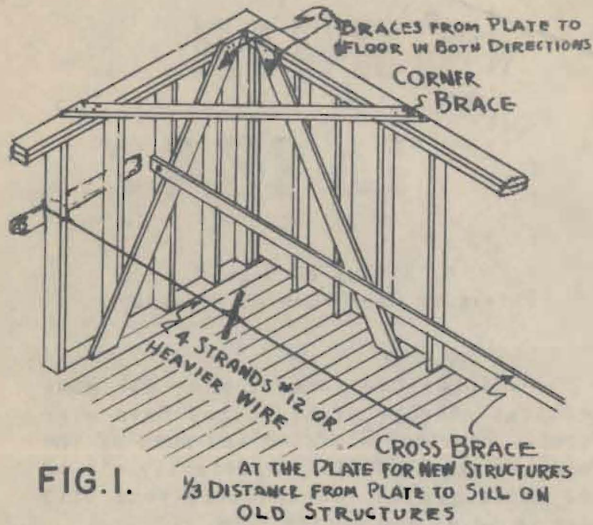

FIG. 1.
(2) **REPAIRING, REPLACING OR SUPPLEMENTING BROKEN, ROTTED, LOOSE OR INADEQUATE STUDS AND JOISTS.** Studs and joists can be adequately reinforced by installing duplicate members at regular intervals (see table 1 for maximum loadings) by cross-tying the walls with twisted strands of wire or by nailing crossties at frequent intervals (see fig. 1). End sections can be tied to the side walls by nailing crossties across the corners at the plate and possibly at the sill.
NAIL ALL STUDDING SECURELY TO THE FLOOR JOIST. A lap joint is recommended. If this joint cannot be used, the studding should be butt-nailed to a sill and the sill nailed to the floor and joists. Avoid toe nailing studs to the sill wherever possible. Adequate bracing is essential (see fig. 1). The following schedule shows the maximum spacing for various sizes of studs and joists.